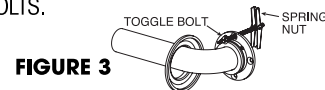

FIGURE 3
6. On the other end of the Grab Bar, insert one (1) of the three (3) toggle bolts supplied through any one of the mounting holes in the Grab Bar. Start a spring nut on the end of the **TOGGLE BOLT** as shown (see Figure 3), screwing it onto the bolt about three turns. Repeat this step for the remaining two (2) **TOGGLE BOLTS**.